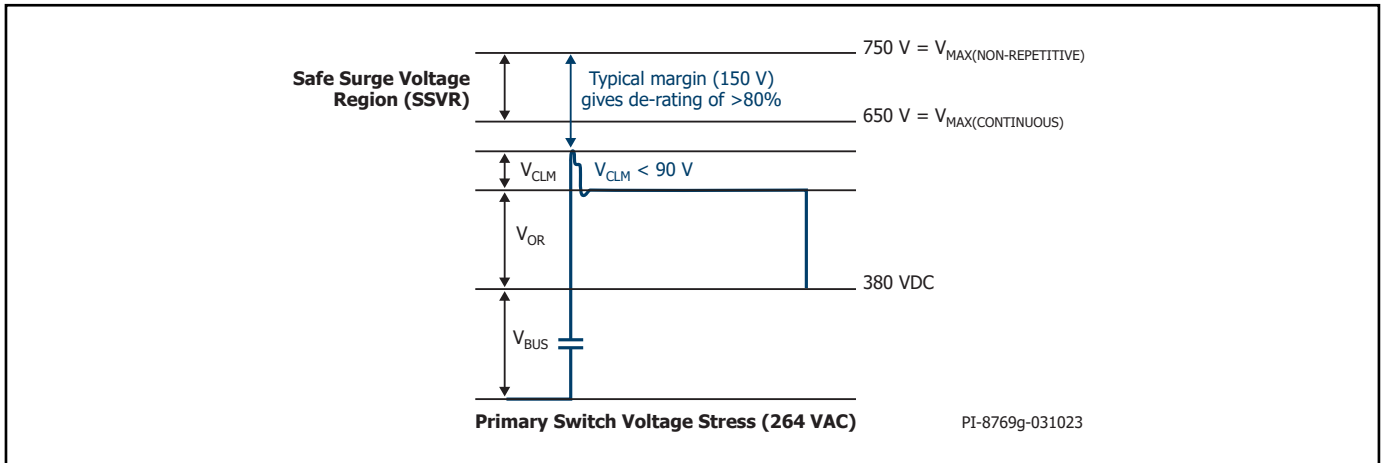
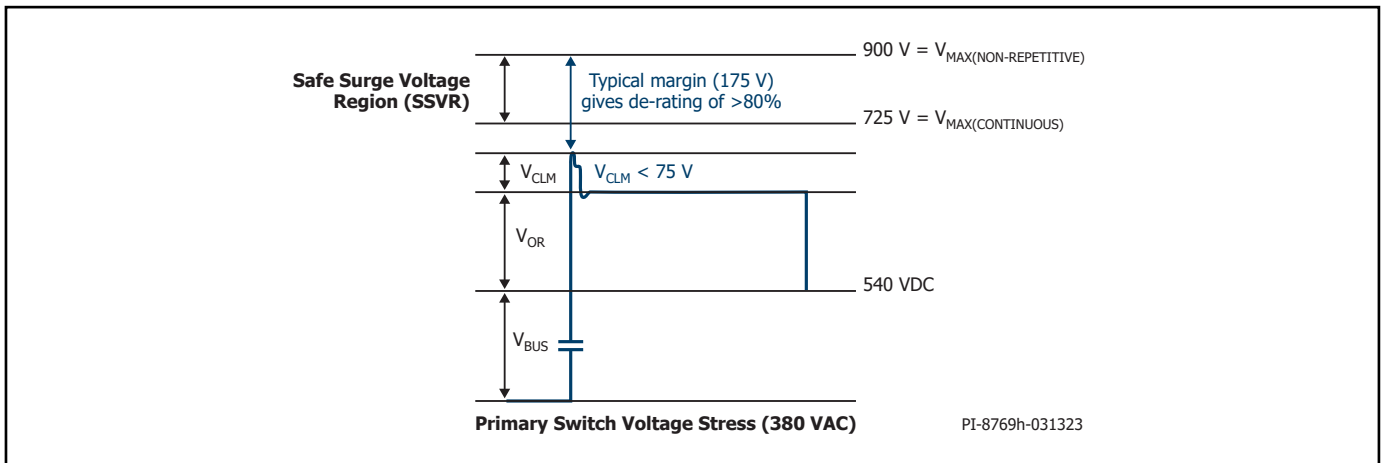

Figure 22. Peak Drain Voltage for 264 VAC Input Voltage using 750 V PowiGaN.
Figure 23. Peak Drain Voltage for 380 VAC Input Voltage using 900 V PowiGaN.
For a flyback converter configuration, typical voltage waveform at the DRAIN pin of the IC is shown in Figure 22 for 750 V device and Figure 23 for 900 V device.
will add a spike at the instant of turn-OFF of the primary switch.  $V_{CLM}$  in Figure 22 and Figure 23 is the combined clamp voltage including the spike. The peak drain voltage of the primary switch is the total of  $V_{BUS}$ ,  $V_{OR}$  and  $V_{CLM}$ .
4. Please see Figure 23.